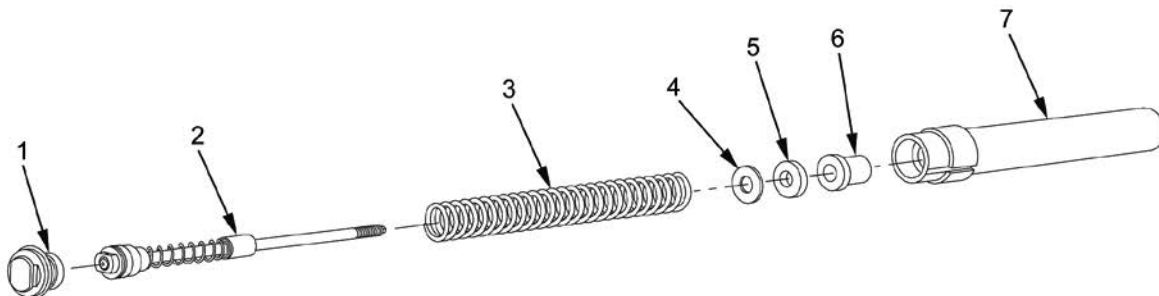

Figure 2. Disassembly of Recoil Mechanism.
8. Retaining pressure on recoil endcap (Figure 2, Item 1), slowly unscrew recoil endcap and release pressure on recoil spring assembly (Figure 2, Item 2).
9. Remove recoil spring assembly (Figure 2, Item 2) and outer recoil spring (Figure 2, Item 3) from spring housing (Figure 2, Item 7).
10. Remove flat washer (Figure 2, Item 4), rubber flat washer (Figure 2, Item 5), and sleeve bushing (Figure 2, Item 6) from spring housing (Figure 2, Item 7). Discard rubber flat washer.